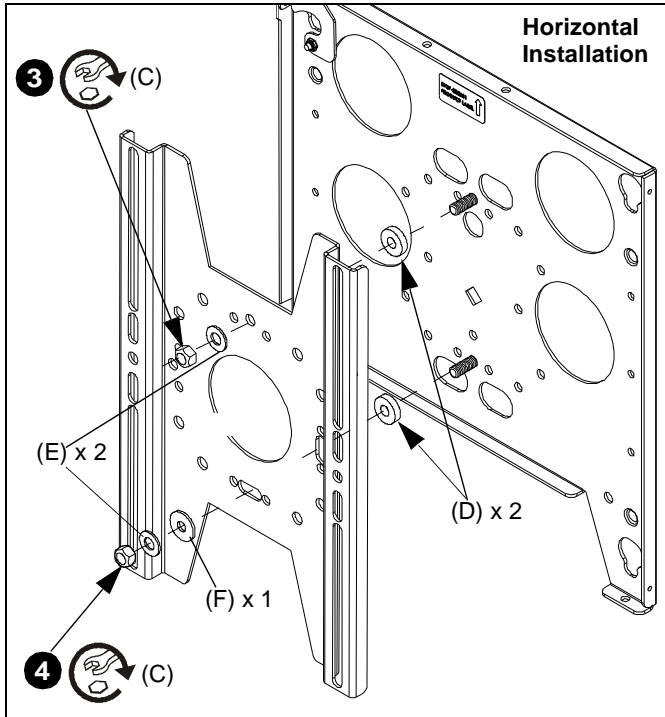

Figure 8
- Secure top of faceplate (A) to the truss plate (B) using one 3/8" flat washer (E) and one 3/8" Stover lock nut (C). (See Figure 8)
- Secure bottom of TPS faceplate (A) to the truss plate (B) using one .094" washer (F), one 3/8" flat washer (E) and one 3/8" Stover lock nut (C). (See Figure 8)